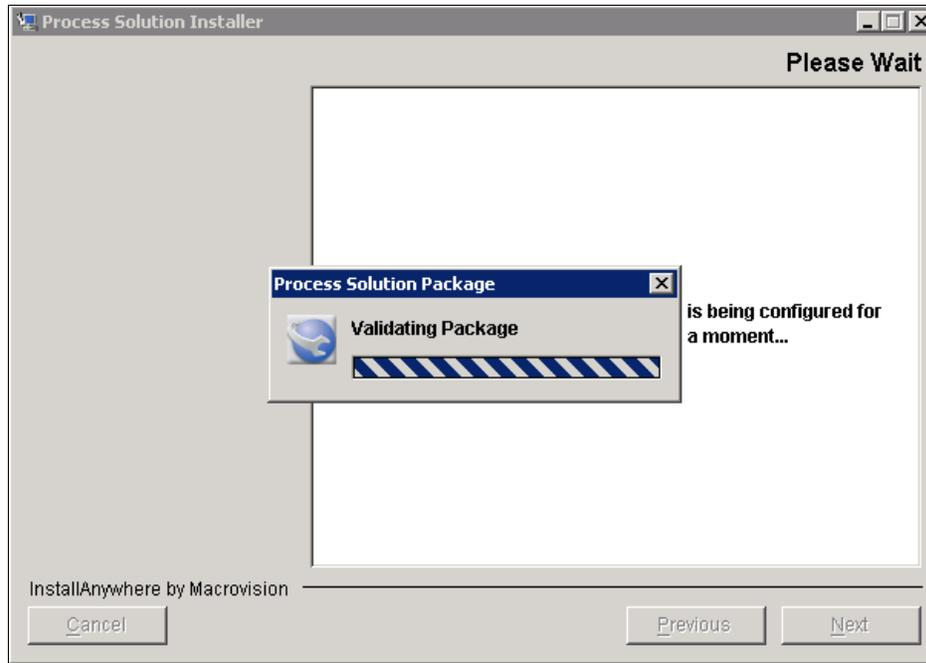

Figure 8-2 Package validation
5. The installation package is validated (Figure 8-2 on page 221).